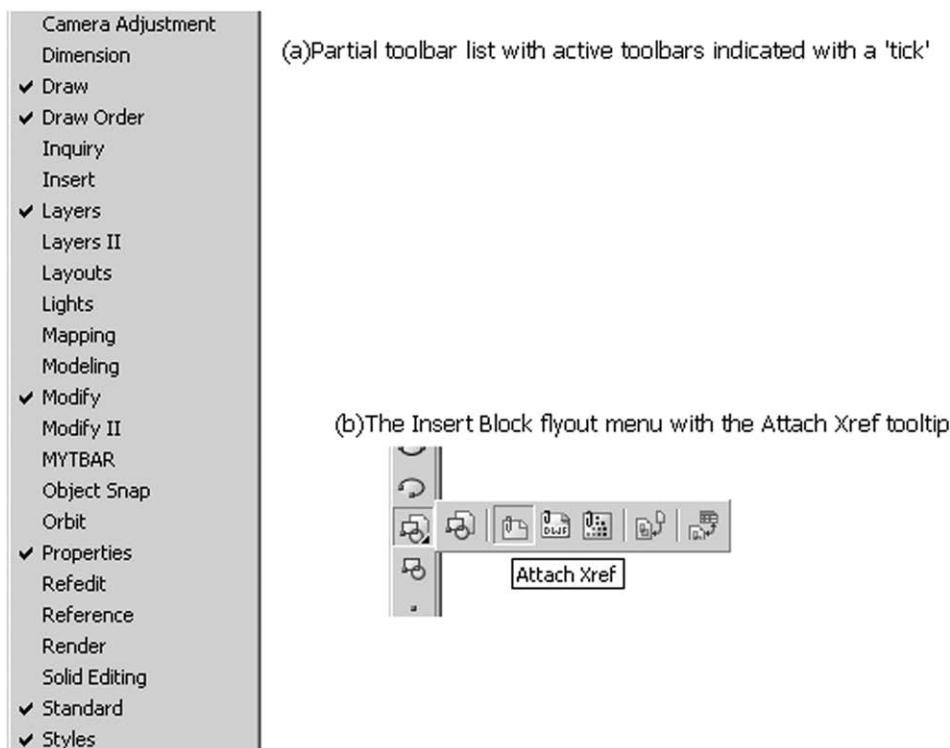

Figure 2.4 (a) The toolbar ‘partial’ shortcut menu and (b) the Insert Block flyout menu.
prompt toolbar shortcut menu – Figure 2.4(a)
- 2 Hold down the left button and a fly-out menu is displayed allowing the user access to another five icons as Figure 2.4(b).